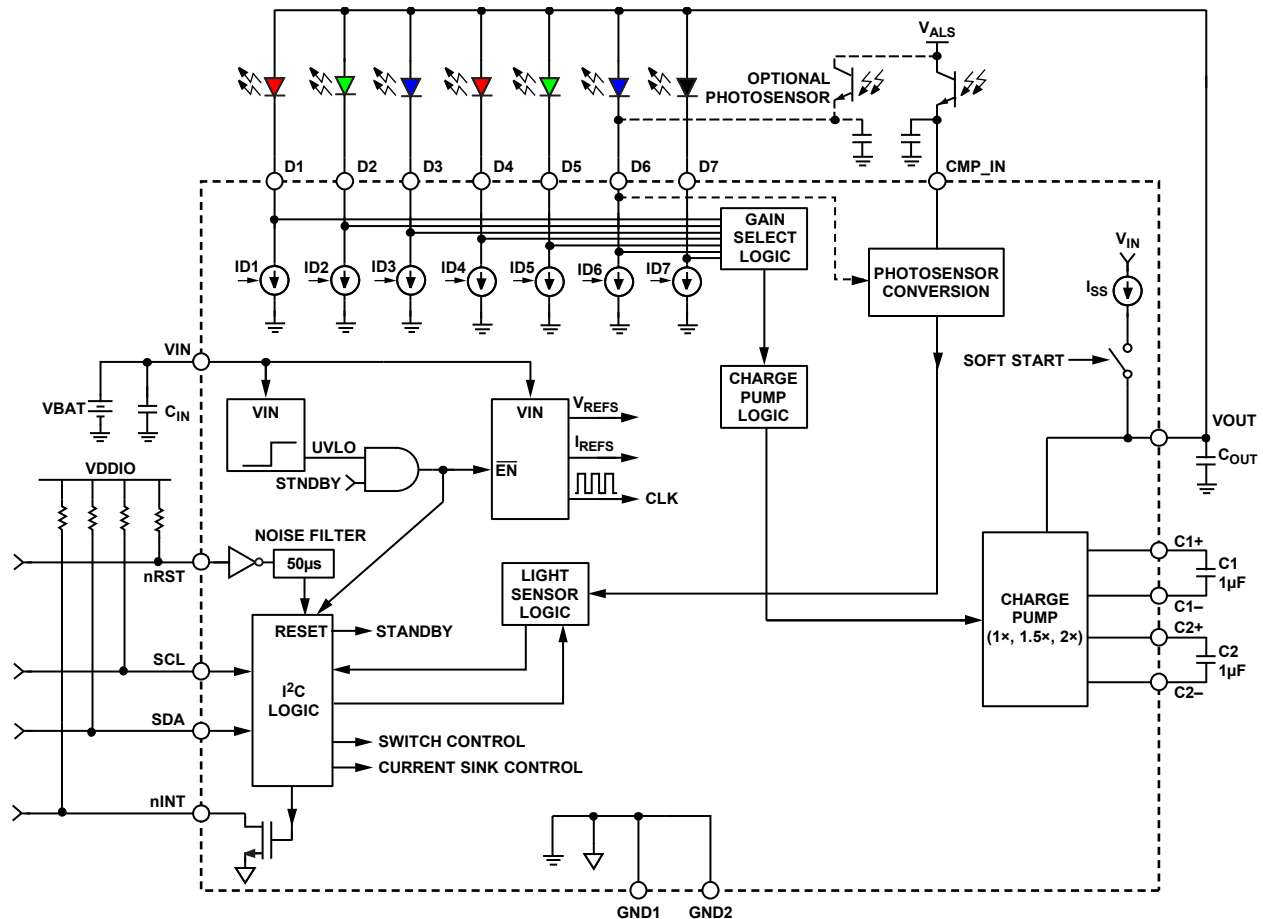

Figure 26. Detailed Block Diagram
By charging the capacitors in different configurations, the charge, and therefore the gain, can be optimized to deliver the voltage required to power the LEDs. Because a fixed charging and discharging combination must be used, only certain multiples of gain are available. The ADP8863 is capable of automatically optimizing the gain (G) from $1\times$, $1.5\times$, and $2\times$. These gains are accomplished with two capacitors (labeled C1 and C2 in Figure 26) and an internal switching network.